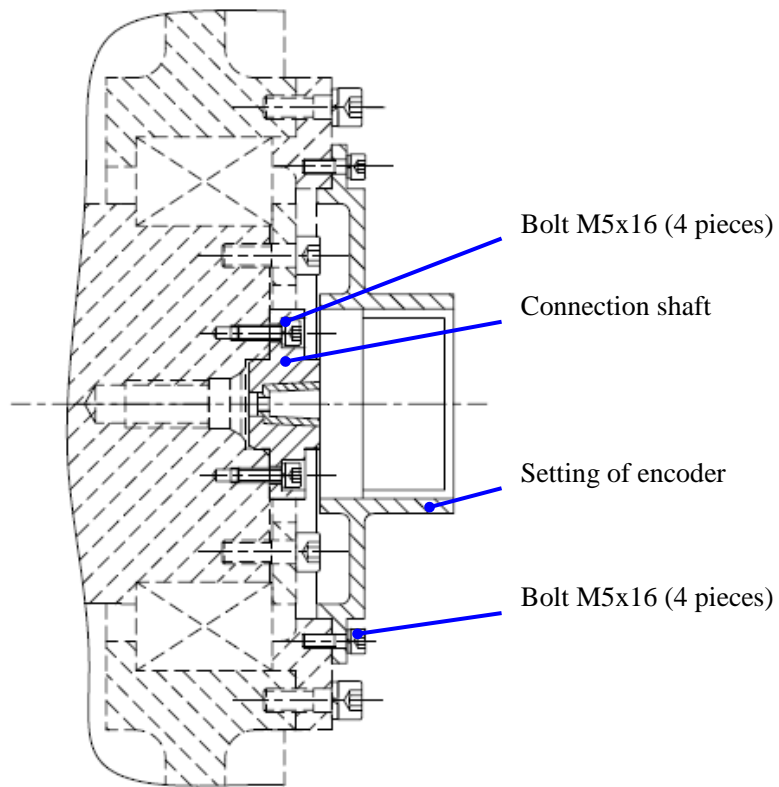

Figure 111: Remove encoder, setting of encoder and connection shaft
3. Remove the Bolt M5x16 (4 pieces) and lock washer (4 pieces), setting of encoder, Bolt M5x16 (4 pieces), and connection shaft in that order. See Figure 111.